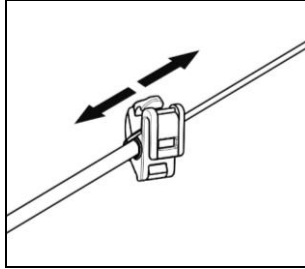

Fig. 25
- Adjust the microphone (Fig. 25).